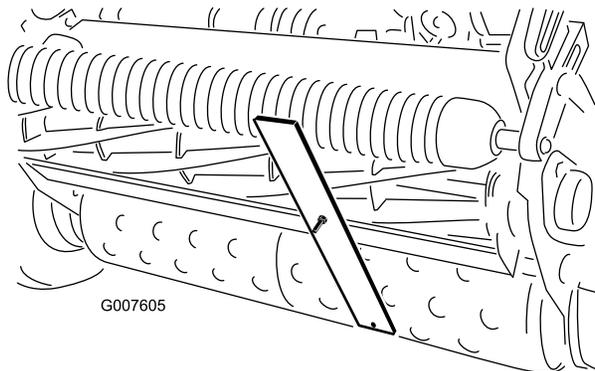

Figure 53
- Hook the screw head on the cutting edge of the bedknife and rest the rear end of the bar on the rear roller (Figure 53).